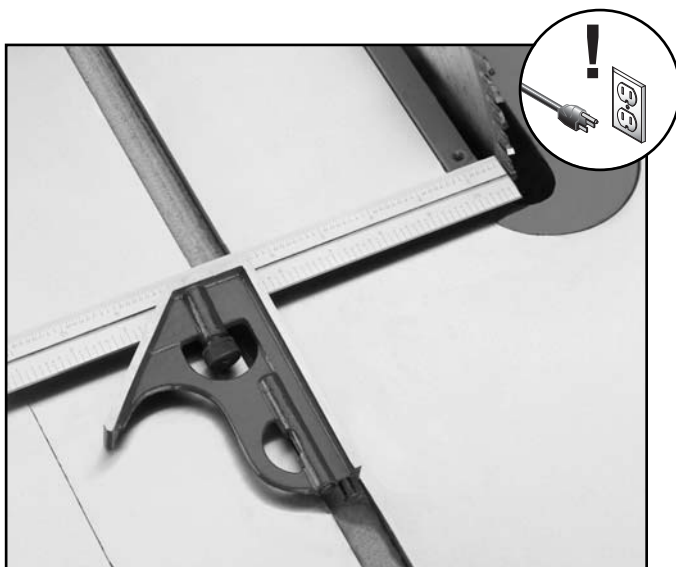

Figure 41. Adjusting blade to miter slot.
2. Use an adjustable square to measure the distance from the miter slot to a carbide tip on the blade as shown in **Figure 41**. Make sure that the face of the adjustable square is even along the miter slot.